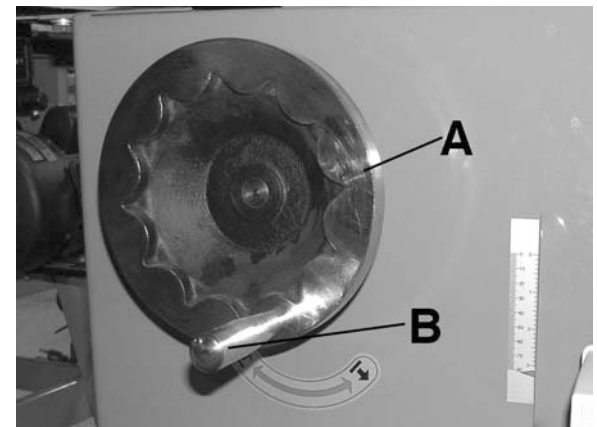

FIGURE 5
The front mounted handwheel (A) Fig.5 comes without the steel handle (B) installed, remove steel handle from loose items box and thread it to the handwheel and secure.